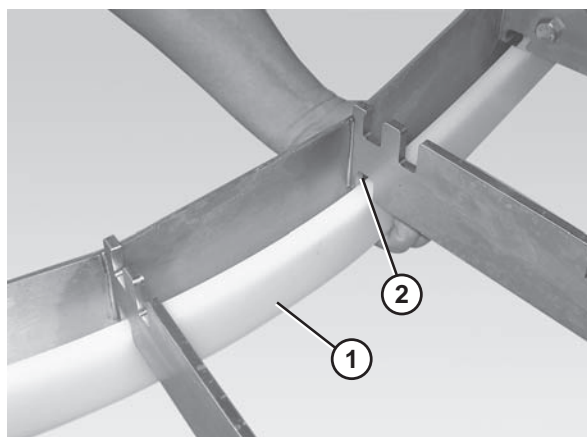

Figure 34
1. Insert the inside return bottom wear strip (**Figure 34, item 1**) into the slots (**Figure 34, item 2**) on the lower inside section of the frame (figure shown without the belt or wear strips).
2. Attach the chain return shoes (**Figure 34, item 1**) to the curve return shafts (**Figure 34, item 2**).